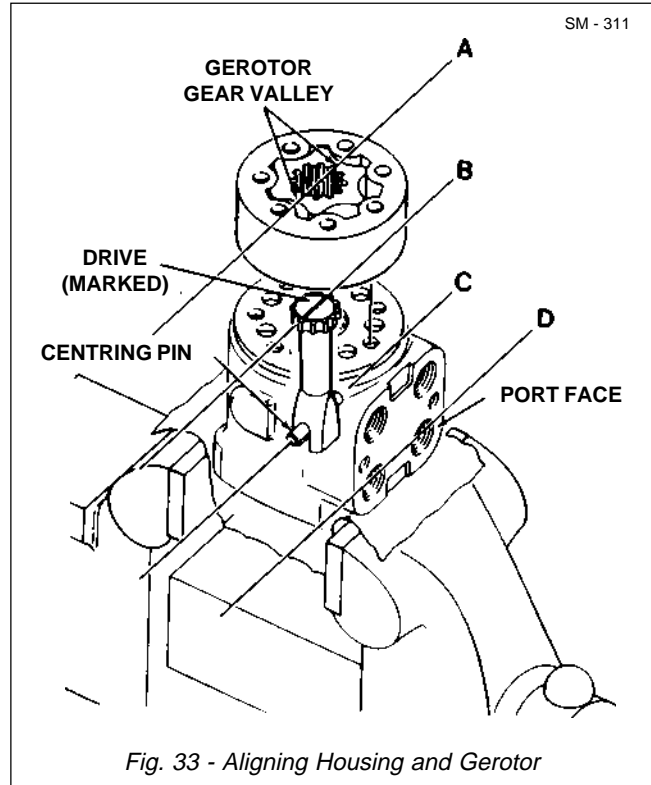

Fig. 33 - Aligning Housing and Gerotor
20. Rotate spool (10) and sleeve (9) assembly until centring pin (11) is parallel with port face. See Fig. 31. Install driveshaft (7) making sure you engage driveshaft (7) with centring pin (11). To assure proper alignment, mark driveshaft (7) as shown in Fig. 33.
driveshaft (7), as shown in Fig. 33. Note the parallel relationship of reference lines A, B, C & D in Fig. 33. Align cap screw (1) holes without disengaging gerotor gear (5) from driveshaft (7).